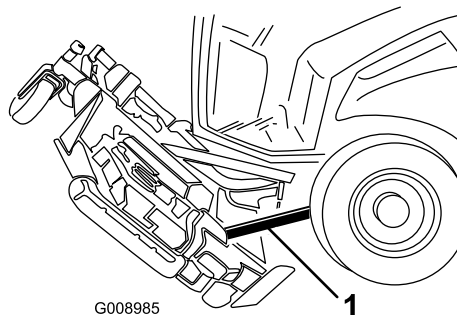

Figure 92
5. Wedge a 2 x 4 between the rear of the deck and the machine (Figure 92).